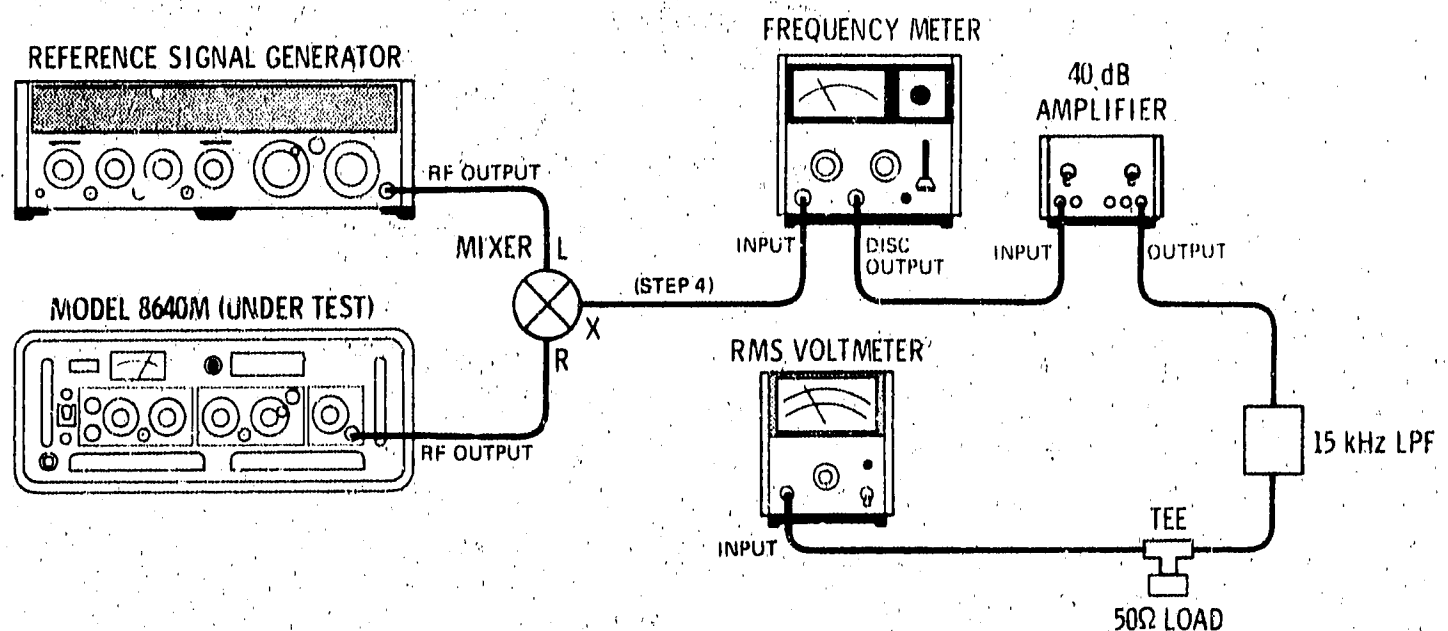

Figure 4-4. Residual FM Test Setup
1. Connect equipment as shown in Figure 4-4 after setting test Signal Generator's controls as follows: